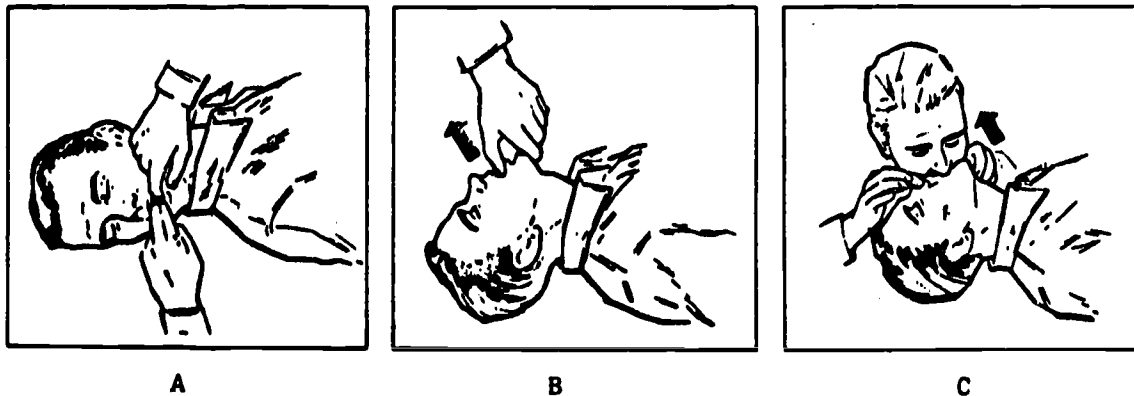

Fig 2-10. Mouth-to-mouth artificial respiration.
Refer to figure 2-10 as you study the following steps for mouth-to-mouth artificial respiration.
- Clean the mouth, nose, and throat. If the mouth, nose, and throat appear clean, start artificial respiration immediately. If foreign matter such as vomitus or mucous is visible in the mouth, nose, and throat, wipe it away quickly with a cloth or by passing the index and middle fingers through the throat in a sweeping motion (see fig 2-10, A).
- Hold his/her lower jaw up. Approach the victim's head preferably from his/her left side. Insert your left thumb between the victim's teeth at the midline. Pull his/her lower jaw forcefully outward so that the lower teeth are further forward than the upper teeth. Hold his/her jaw in this position as long as the victim is unconscious. You can wrap a piece of cloth around your thumb to prevent injury to yourself by the victim's teeth (see fig 2-10, B).
- Blow air into the victim's lungs. Take a deep breath and cover the victim's open mouth with your open mouth to make an airtight contact. Blow until the chest rises. Blow forcefully into adults and gently into children (see fig 2-10, C).